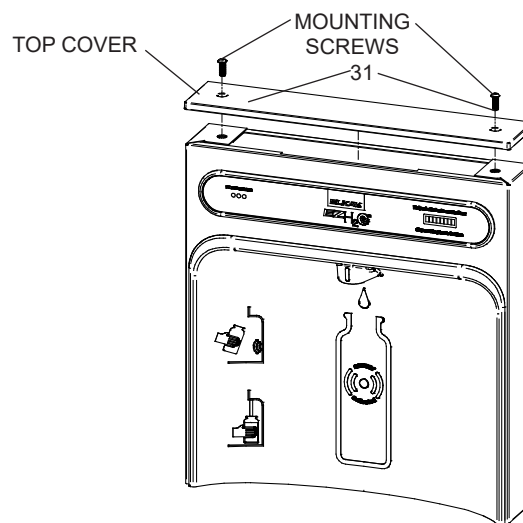

Fig. 9
- 1) Remove two (2) mounting screws with 5/32" Allen wrench holding top cover to Bottle Filler (See Fig. 9). Remove top cover. Note do not discard mounting screws, they will be needed to reinstall top cover.
- 9) Once Bottle Filler is installed on wall plate tabs, water line, wire(s) and power cord are installed properly, push top of Bottle Filler toward wall and line up top cover two (2) holes.
- 10) Reinstall Top Cover on Bottle Filler (See Fig. 9) with two mounting screws from step 1 above. Caution, do not over tighten screws.